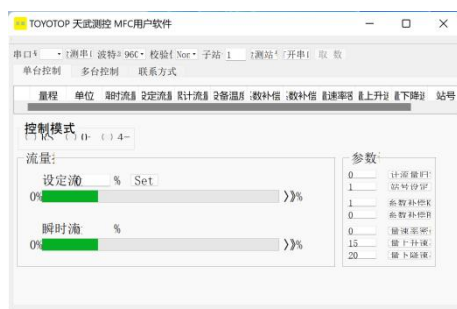

Figure 1 (abnormal display)
2. Unzip the "Tianwu Measurement and Control TP Series Dedicated Software," and open the "FlowMeter.exe" application. If the software displays an error upon opening, (as shown in Figure 1) right-click on "FlowMeter.exe," open "Properties," click "Compatibility," and select "Change High DPI Settings." Check "Replace High DPI Zoom Behavior." Choose "System (Enhanced)," and confirm. (as shown in Figure 2)